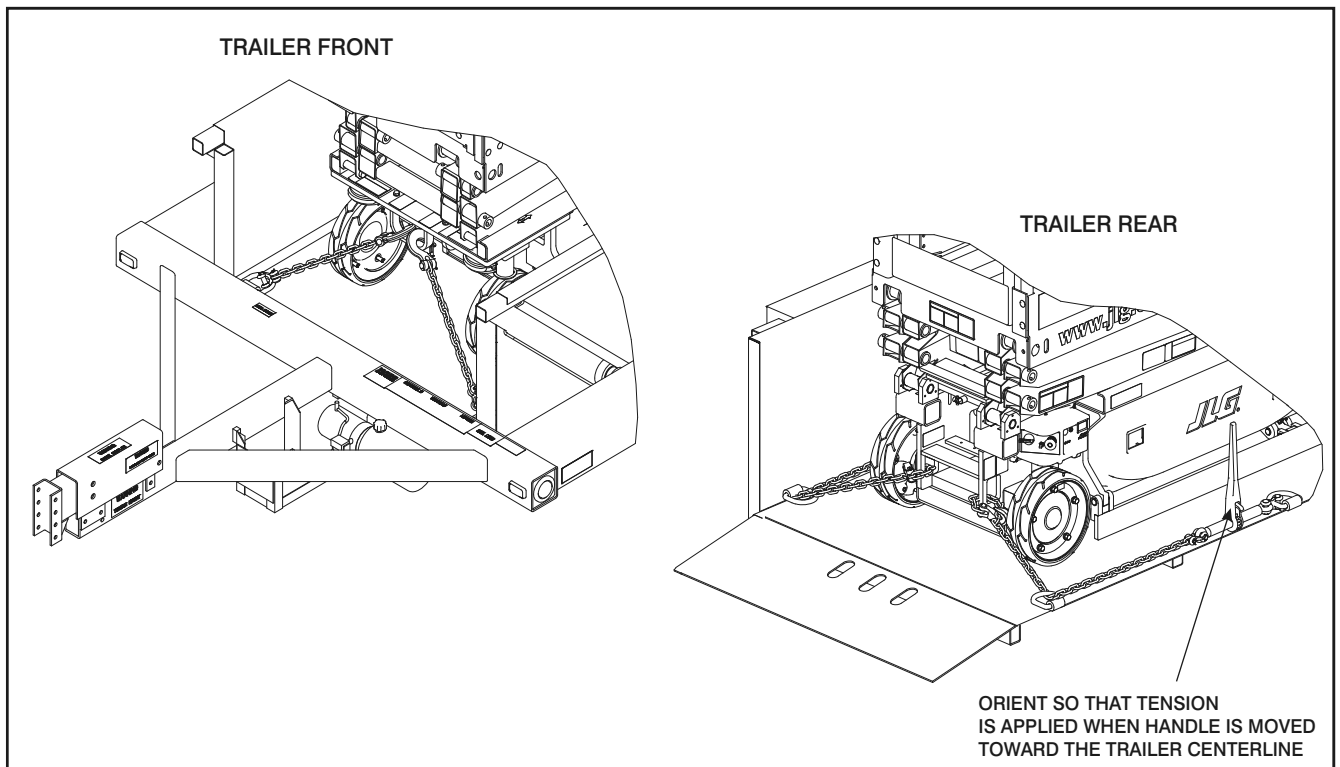

Figure 2-4. Lift Tie Down
5. Chain tension should be adjusted with the ratchet binder. (See Figure 2-4., Lift Tie Down).